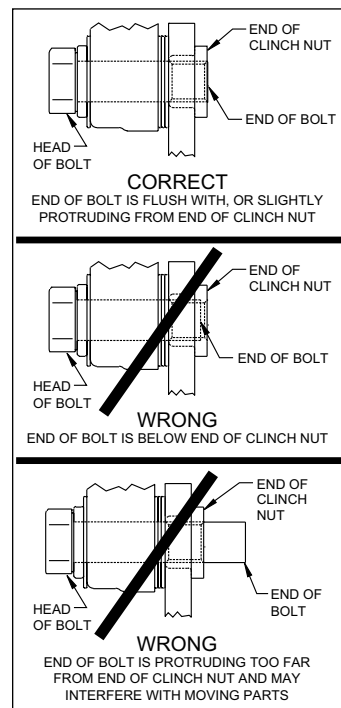

Figure 3. Clinch Nut Engagement Diagram
**CAUTION:** All mounting bolts must fully engage clinch nuts. Be sure to check that all bolts are either flush or protruding through flanged side of clinch nut after shimming, Figure 3.
**STEP 8** **NOTE:** Please reference the caution statement at the beginning of the assembly instructions. This kit contains distinct right and left hand calipers that must be mounted in a specific direction, as described below. Mount the caliper (8) onto the caliper mounting bracket (1) using bolts (9) and washers (10), as shown in Figure 1. Initially place two .035" thick shims (11) on each bolt between the caliper and the bracket, Photo 6. Ensure that the caliper is mounted so that the largest pistons are at the rotor exit end of the caliper, in relation to the direction of forward rotor rotation. Temporarily tighten the mounting bolts (9) and view the rotor (3) through the top opening of the caliper. The rotor should be centered in the caliper, Photo 7. If not, adjust by adding or subtracting shims (11) between the bracket and the caliper. Always use the same amount of shims on each of the two mounting bolts. **NOTE:** The end of each bolt must be flush with or slightly protruding from the head of the clinch nut, as shown in Figure 3. If necessary, place spare shims (11) between washer (9) and caliper mounting ear to achieve the proper clinch nut engagement. Once the caliper alignment and clinch nut engagement are correct, remove the caliper.